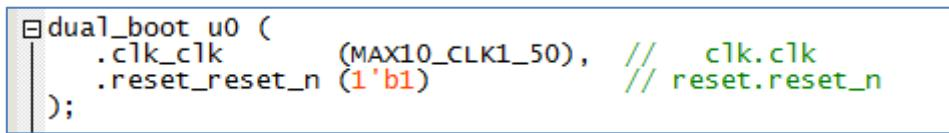

Figure 6-10 Add the dual\_boot module in top file.
- Click **Close** and **Finish** to return to the window and add the dual\_boot qsys into the top file as shown in **Figure 6-10**, and add the dual\_boot.qip file to the project and save.